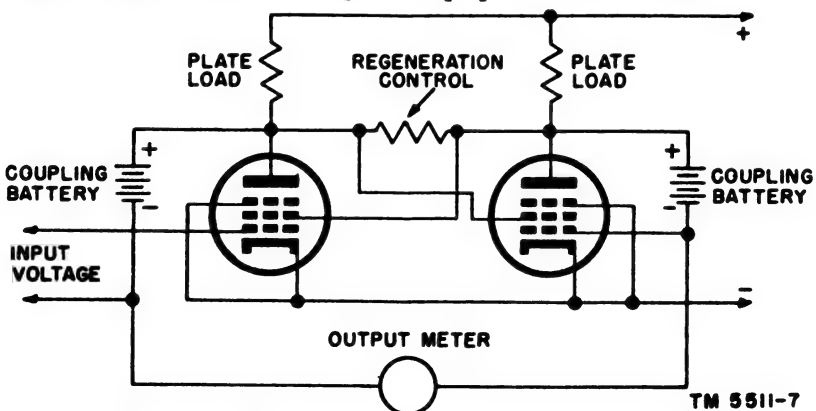
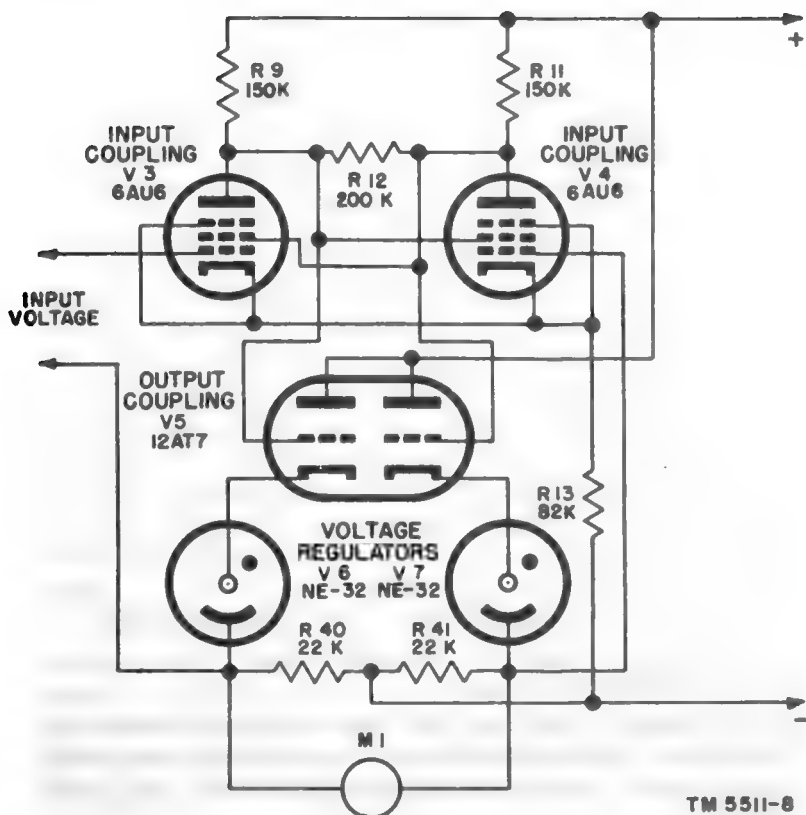
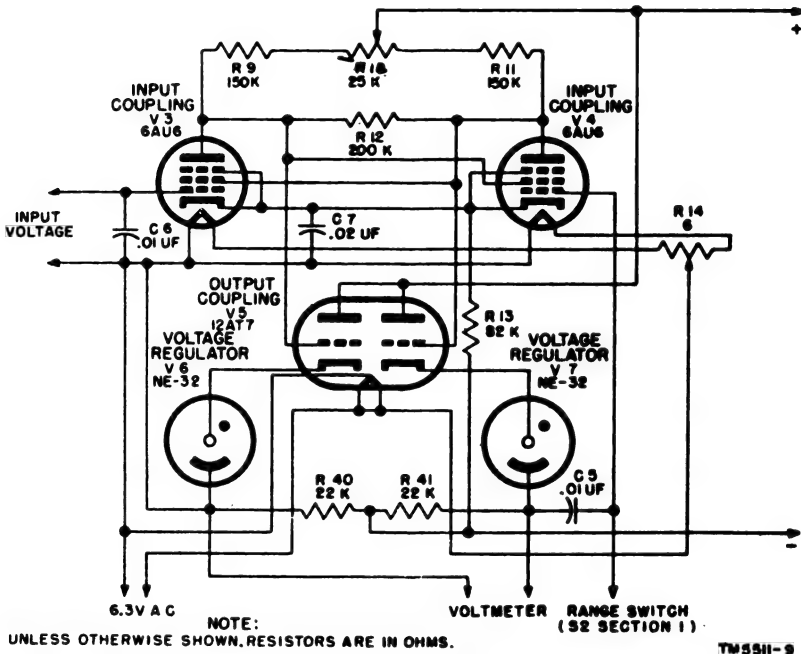

Figure 7. Simplified circuit illustrating amplifier operation.
Figure 8. Amplifier, simplified schematic.
Figure 9. Electronic Multimeter TS-505/U, amplifier schematic.
a. The amplifier portion of the multimeter consists of tubes V3, V4, V5, V6, and V7. The operation of the amplifier will be understood more easily after an analysis of the circuit in figure 7. If the coupling batteries are removed, the screen grid, plate, and cathode of one tube are so phased with the corresponding elements in the other tube that the two tubes will act as a multivibrator. Since the circuit is in a state of oscillation, infinite gain is theoretically available from the amplifier because any minute voltage would be greatly amplified. However, the circuit cannot be used in this manner because it would be much too unstable. If the coupling batteries are replaced, it is seen that the action from plate to grid is degenerative. Under these conditions, the output voltage will be equal to the input voltage, thus maintaining a high input resistance and at the same time yielding the low output resistance necessary to operate the meter. The magnitude of the voltage from the coupling battery should be such as to give the proper bias to the tube.
b. The circuit in figure 8 is a simplified version of the circuit label which is found in Electronic Multimeter TS-505/U. The coupling batteries in figure 7 have been replaced by tubes V5, V6, and V7. Using tube V5 for coupling permits the operation of the plates of tubes V3 and V4 without any loading. Loading would occur if neon glow lamps V6 and V7 were connected directly to the plates of tubes V3 and V4. The neon glow lamps provide a low resistance coupling from tube V5 to the meter. Resistors R9 and R11 determine the gain of tubes V3 and V4. Resistor R12 sets the amplifier gain to unity. Resistors R40 and R41 provide a resistance across which the output voltage is developed. Resistor R13 is the biasing resistor for tubes V3 and V4.
c. The actual schematic diagram of the amplifier in the multimeter (fig. 9) is the same as that in figure 8 with the addition of several
components. Resistor R10 is used to adjust the zero setting of the meter. Resistor R14 is a coarse zero adjustment to allow for large variations in the characteristics of tubes V3 and V4 and to set the multimeter within the range of resistor R10. Note that the negative point of the power supply is not connected directly to one terminal of the input voltage under measurement. In figures 7, 8, and 9, the schematic indicates an open circuit in the grid of V3; actually, a resistor appears across this grid at all times. In figure 9, the indicating meter is not shown because the output is first applied to the switch before going to the meter.